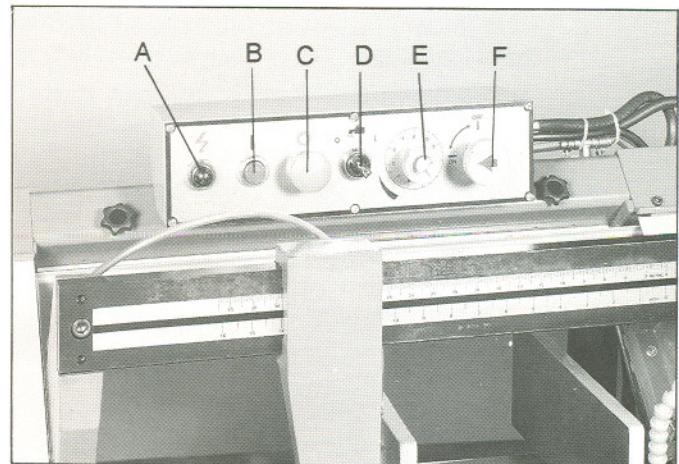

Fig. 5
### Controls - Figure 5
2. Turn hydraulic valve to on (F - Fig. 5)
3. Turn cutting pressure control valve (E - Fig. 5) counter-clockwise until it stops.